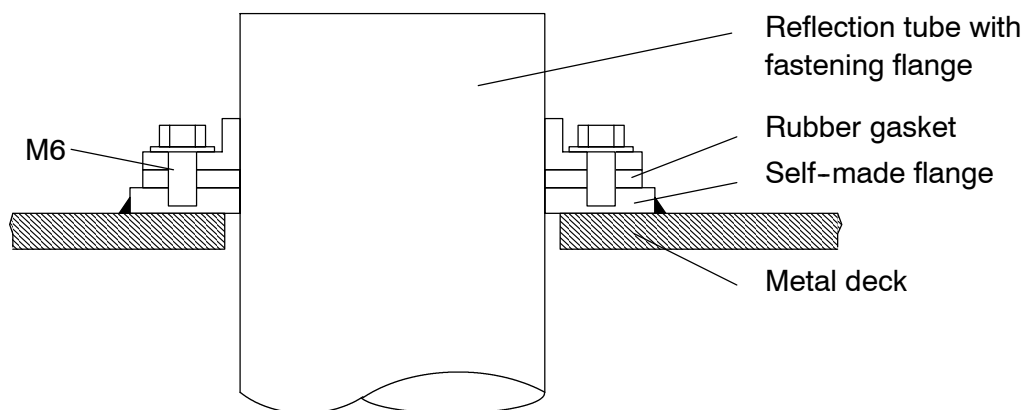

Fig. 6-7: Mounting the Reflection Tube
- 4) Weld the flange - centred to the hole for the reflection tube- on to the deck, see Fig. 6-7. Pay attention to position of holes.
- 7) Lower the reflection tube through the prepared hole and screw it down, see Fig. 6-7. The ahead direction has been marked.